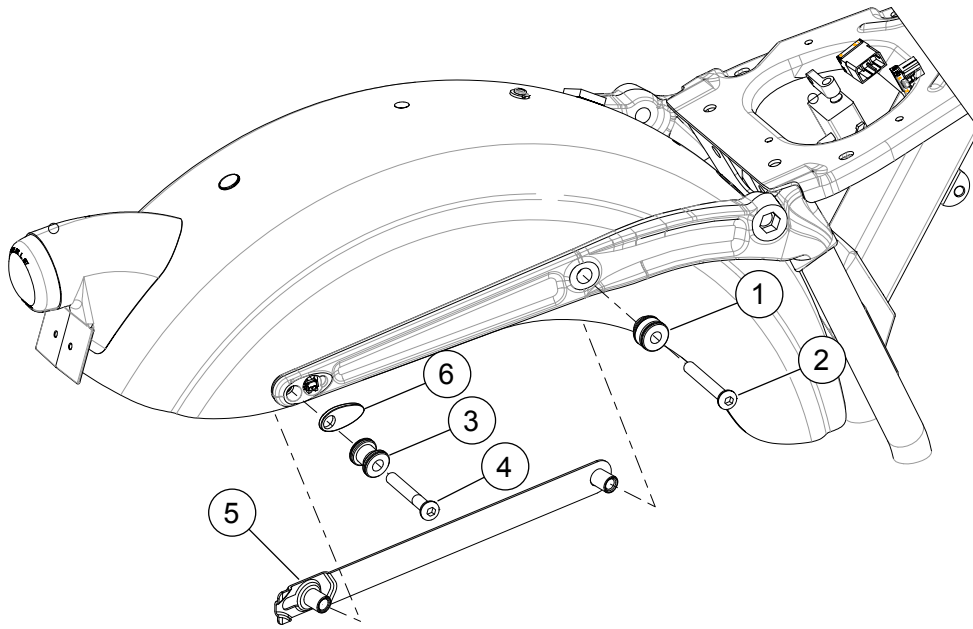

Figure 1. Service Parts: FXDB Docking Hardware Kit
See Figure 1 and Table 1.
2. See Figure 1 and Table 1. Apply Loctite 243 (Blue) to button head bolt (2) prior to installation. Place the tapered side of front docking point (1) against the strut. Insert button head bolt (2) through the docking point, fender and fender mounting bracket (5). Tighten to 16.3–24.4 N·m (12–18 ft-lbs).
3. Apply Loctite 243 (Blue) to button head bolt (4) prior to installation. Install spacer recess cover (6), rear docking point (3) and bolt (4) to fender mounting bracket and tighten to 16.3–24.4 N·m (12–18 ft-lbs).